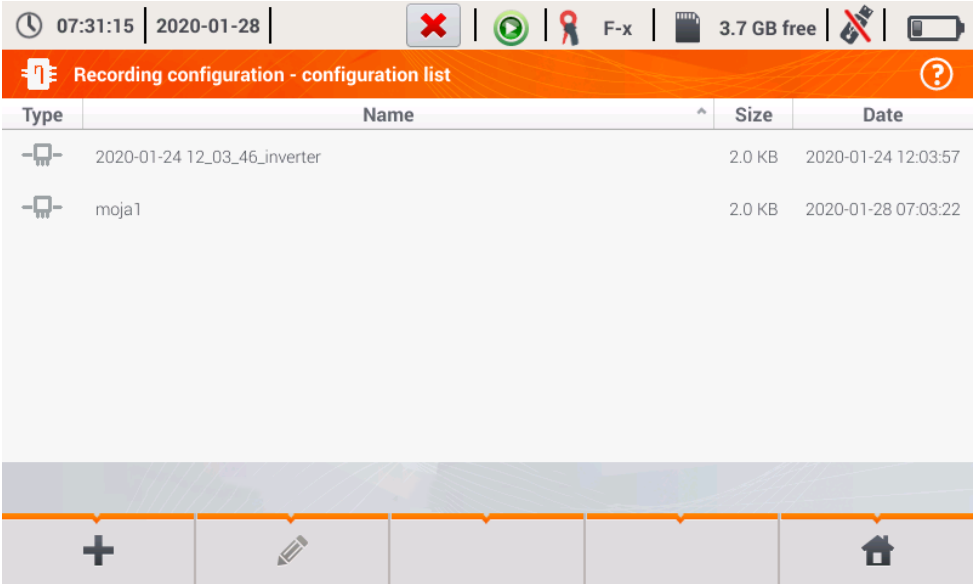

Fig. 3.11. Menu of recording configuration
-  entering the list of saved configurations of inverter efficiency and creating a new configuration. Configurations are presented similarly to the measuring configurations, they have their own icon . Double-tap on a selected configuration will open it automatically and entering the screen with inverter efficiency settings (**Fig. 3.11**). The button in the menu bar  is used for adding new configurations starting of the inrush current (a window is displayed, as shown in **Fig. 3.12** with default settings). Icon  is used to edit the chosen configuration.